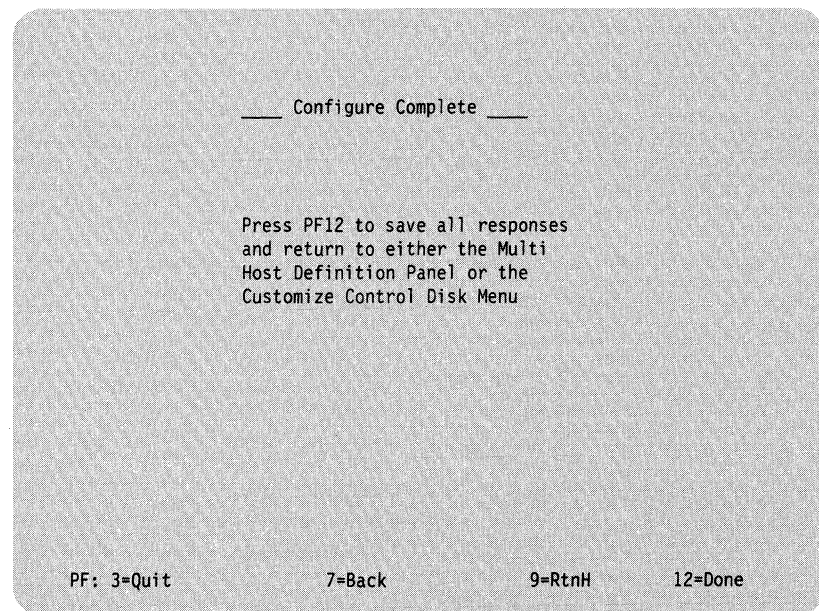

Figure 2-28. Configure Complete Panel
Step 41 When all the panels that you need have appeared, the screen clears. A new panel, Configure Complete, appears. See Figure 2-28.